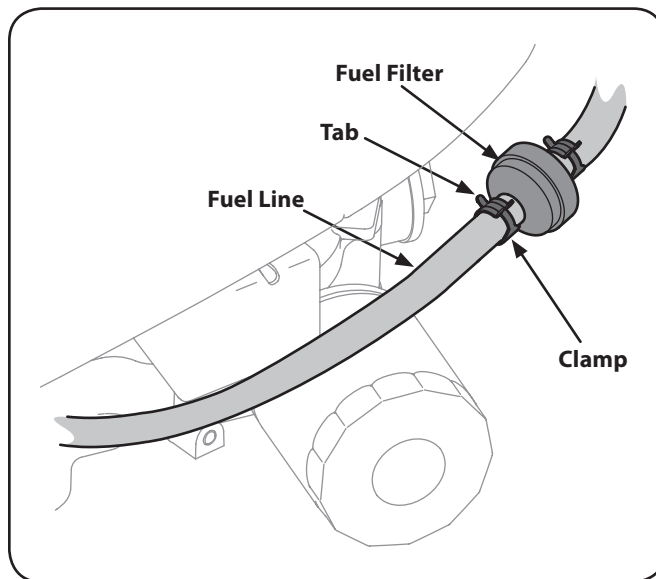

Figure 6-11
2. Use pliers to squeeze tabs on the clamps, then slide the clamps away from the fuel filter. See Figure 6-11.